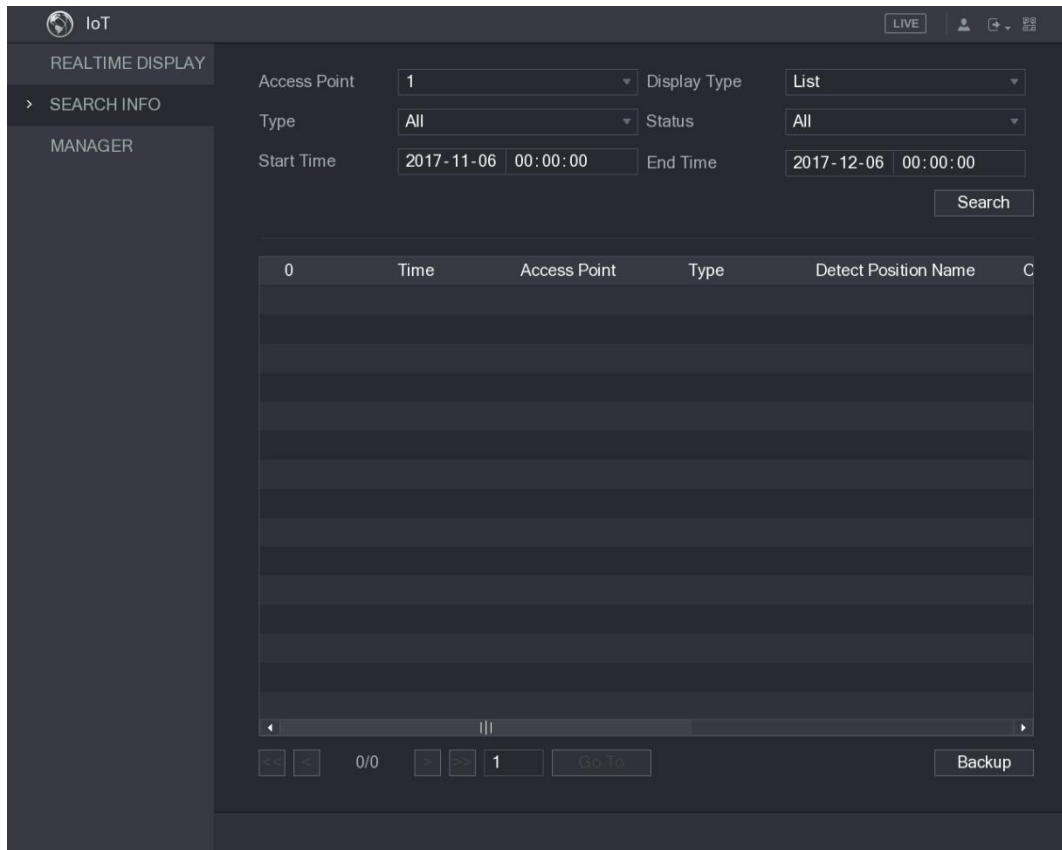

Figure 5-193
Step 1 On the main interface, select **IoT > SEARCH INFO**. See Figure 5-193.